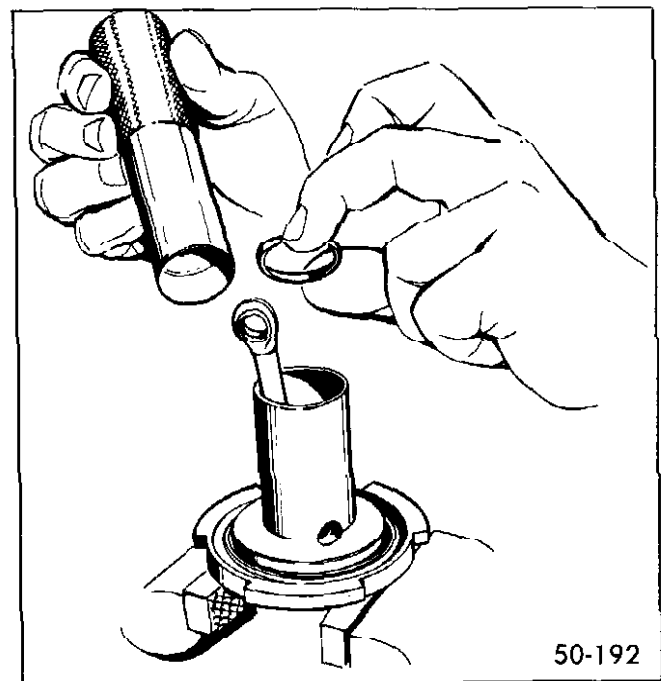
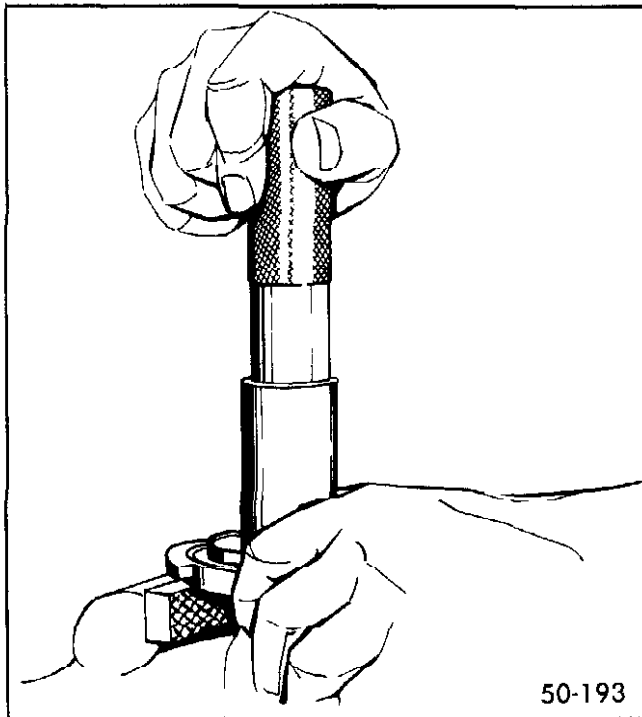

Figure 50-85 Installing Floating Control Valve Retainer With Installer J-23175
Figure 50-86 Seating Floating Control Valve Assembly With Installer J-23175
5. Place the I.D. of the floating control valve retainer on the O.D. of floating control valve retainer installer J-23175. See Figure 50-85. Place over the push rod so that the closed side of the retainer seats on the floating control valve. With Installer J-23175, manually press the retainer and floating control valve assembly to seat in the primary power piston tube. See Figure 50-86.